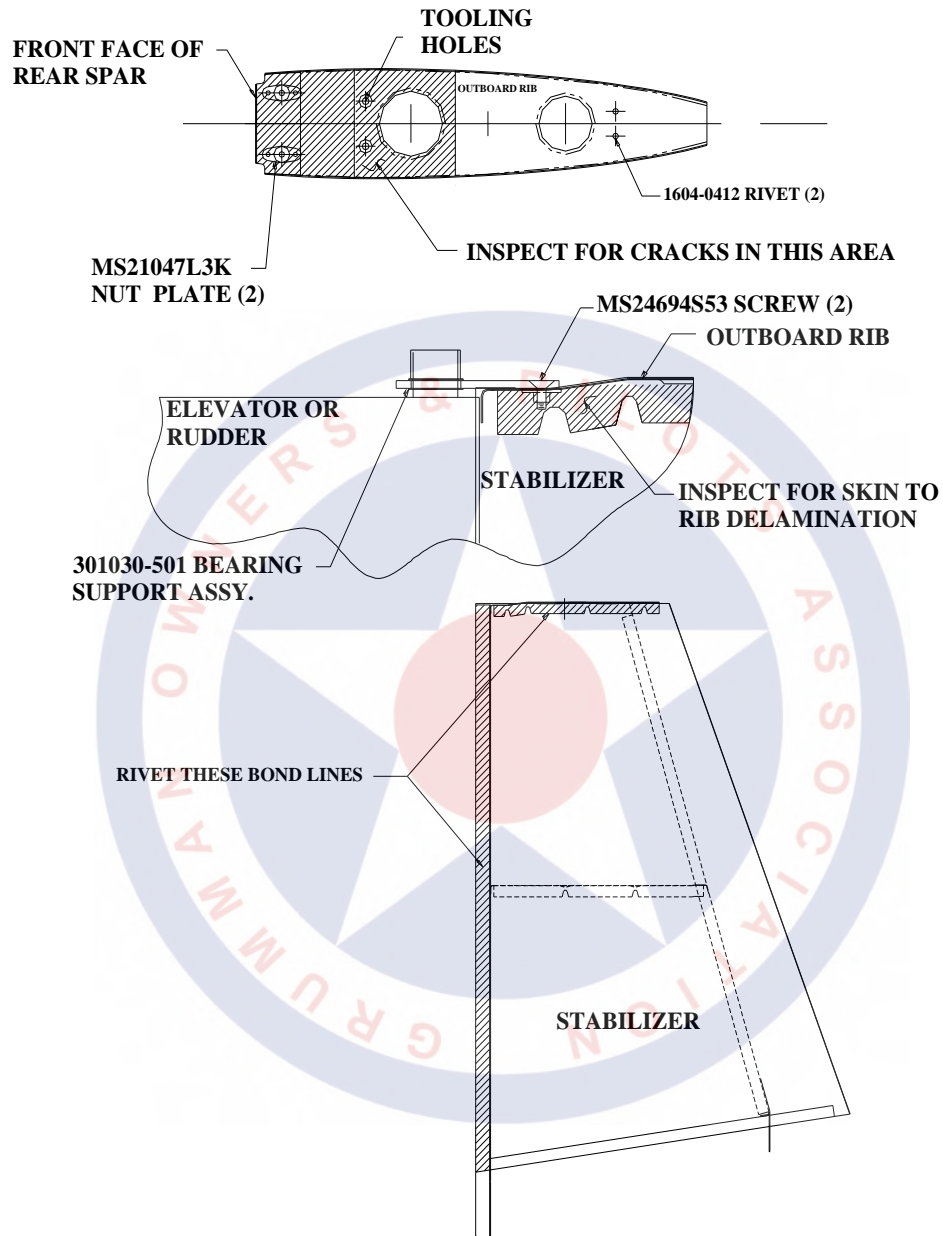

**FIGURE 2
1. Carefully inspect all bondlines of the wings, stabilizers and fuselage (Figure 2 & 3) for bondline separation using the “Tap Test” method. With a coin or similar object, tap the length of each bondline while listening for a change in tone as the area is traversed. A bondline separation will produce a flat or hollow sound when tapped in the delaminated area. Mark delaminated areas with a grease pencil on the outer surface. (Figure 1)
6. Inspect the interior of the wings, stabilizers and aft fuselage for corrosion. If only light surface corrosion (white ash appearance) is found, proceed to step (7). If major corrosion (blisters, flaking, cracks or holes in the metal) is found, make repairs as required in accordance with the maintenance manual Chapter 20 or install a replacement, serviceable part then proceed to step (7).